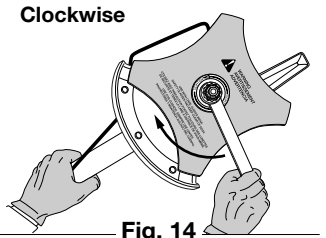

Fig. 14
2. Hold the locking rod in place by grasping it next to the boom of the unit (Fig. 14).
3. While holding the locking rod, loosen the nut on the blade by turning it clockwise with a 13 mm closed-end or socket wrench (Fig. 14).